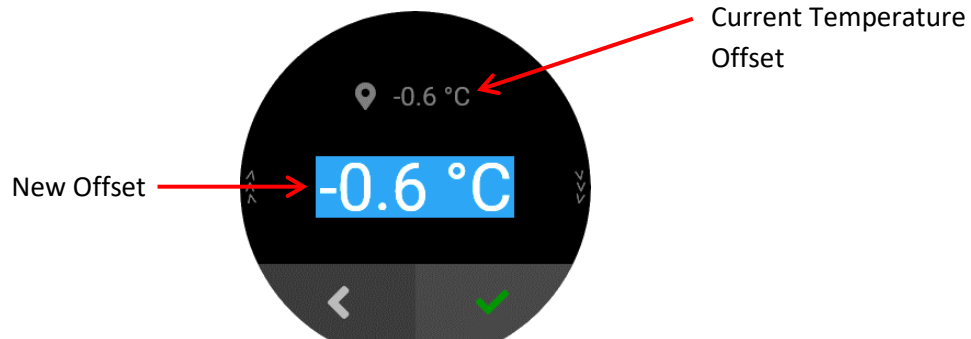

Figure 66: Calibration Offset Edit Screen
10. Press the edit button on the Base Unit to edit the temperature offset. When you enter this screen, the current calibration offset will be shown on top, and that same number will be initially shown highlighted as the new offset. See Figure 66.